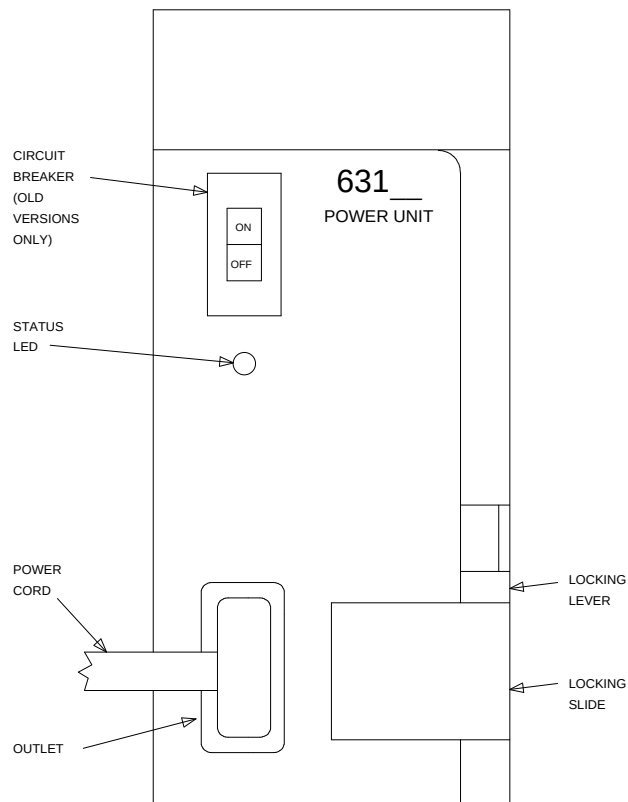

Figure 7-40. 631-Type Power Unit
19. Connect the power cords to the power units. The power cords are the white cables equipped with plugs that are run through the slots in the front of each carrier (see Figure 7-40 on page 7-87).